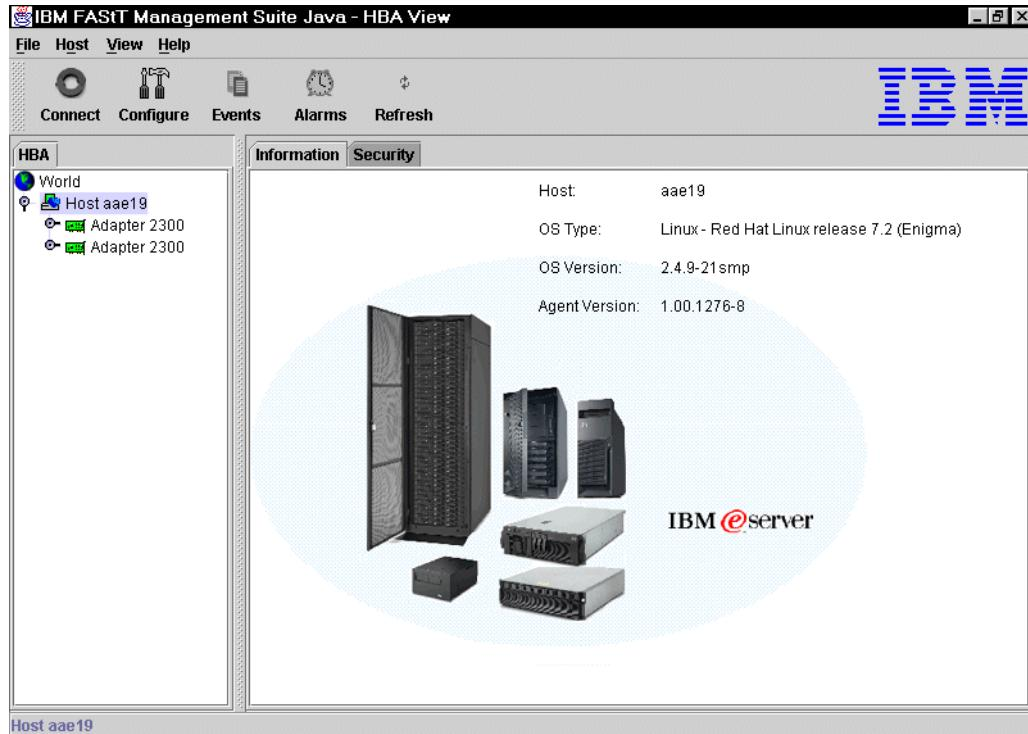

Figure 4-65 FASST MSJ Host view
5. Click **Host aae19** to see the two tabs displayed in the right-hand pane (Figure 4-65). They are: